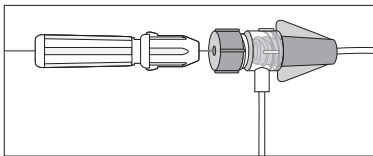

Figure 26
7. If provided, adjust the marking device until it sits securely against the Tuohy-Borst adapter. Firmly tighten the marking device and ensure that it does not slip on the Stylet (refer to Figure 26). If the marking device is not preloaded on the stylet, use the provided permanent marker to mark the Stylet just behind the Tuohy-Borst adapter for reference.